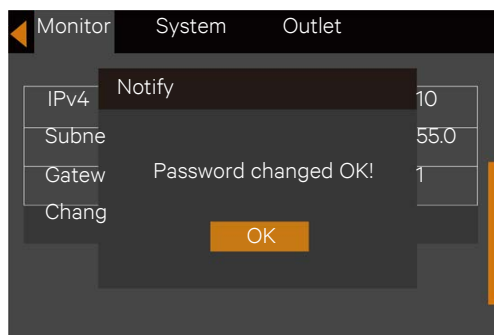

Figure 5-25 Password changed OK
6. After the confirmation, press the **Enter** key and at this point system prompt a dialog box indicating that the password has been changed successfully see Figure 5-25.